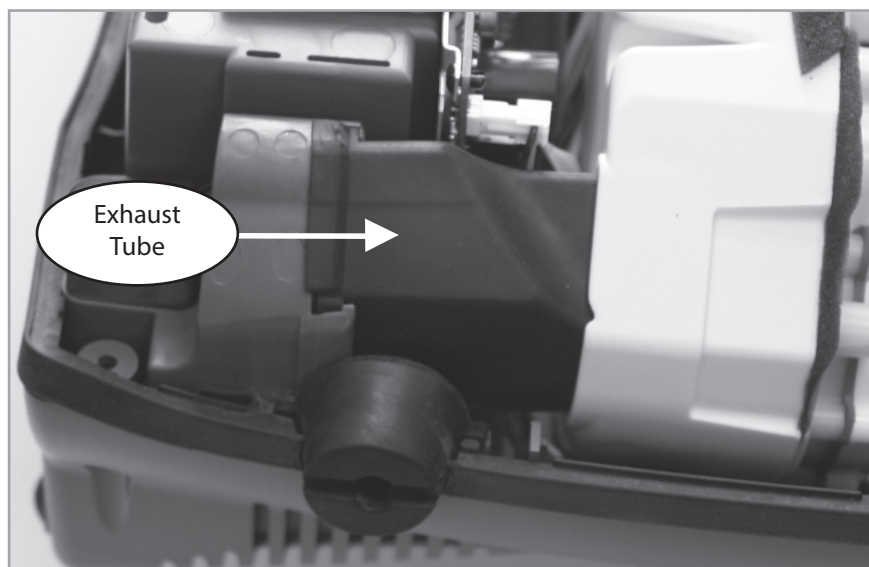

Figure 58: Exhaust Tube Removal.
5. Remove the Exhaust Tube shown in Figure 58.
11. Hold onto the Compressor Box and lift the Bottom Case in standing position. Insert the Exhaust Tube into the slot of the Exhaust Duct as shown on Figure 58 above. Ensure that it is secure without any gaps.
1.8 Position the New Power Manager PCB(PN: 5932-1-SEQ) 1" out of the case as shown in Fig 58. Gently push the Compressor Box away from the Power Manager pcb by 1/8". Connect the 2 wire harnesses (Ext Power & ATF harness) and the Control Board Ribbon Cable. **Note:** Route the wiring under the edge of the compressor. Position the Power Manager PCB into the alignment slots on the back case. Finally connect the 9V batt wiring harness (between the exhaust & battery compartment) and 3 Compressor wiring harnesses to their connectors.